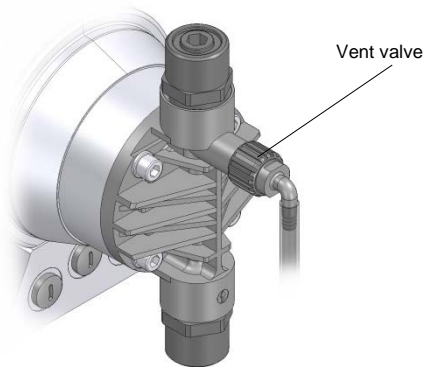

Fig. 08
4. Open the vent valves at the pump head of the dosing pumps and the shut-off valves in the pressure pipe (see Fig. 08).